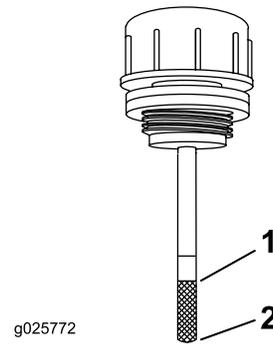

Figure 68
6. Clean the area around the dipstick of the hydraulic-system reservoir (Figure 68).
7. Remove the dipstick from the hydraulic reservoir (Figure 68).
9. Remove the dipstick and look at the end (Figure 68). If the fluid level is at the add mark, slowly pour only enough fluid into the hydraulic reservoir to raise the level to the full line.